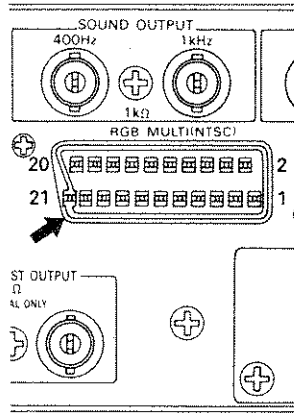

Figure 4.16
4.5.2 21-pin Multiconnector (See Figure 4.16, Table 4.4 and 4.5)